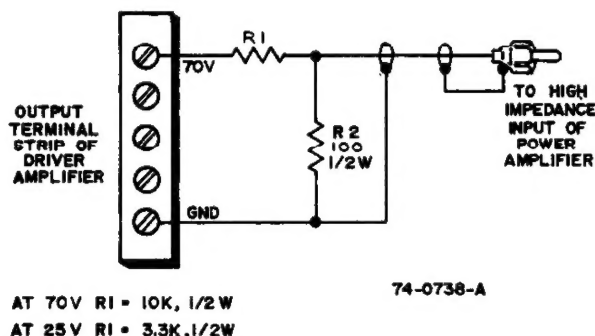

Figure 3 - Input From Another Amplifier
**INPUT FROM ANOTHER AMPLIFIER.** The BPA-60 may be driven from an amplifier that provides a 25-volt or 70-volt constant-voltage output. Connect the output of the driver amplifier to one of the HI-Z input jacks via a resistor network (see Figure 3). These resistors are in addition to the normal loudspeaker load impedance on the output of the driver amplifier.